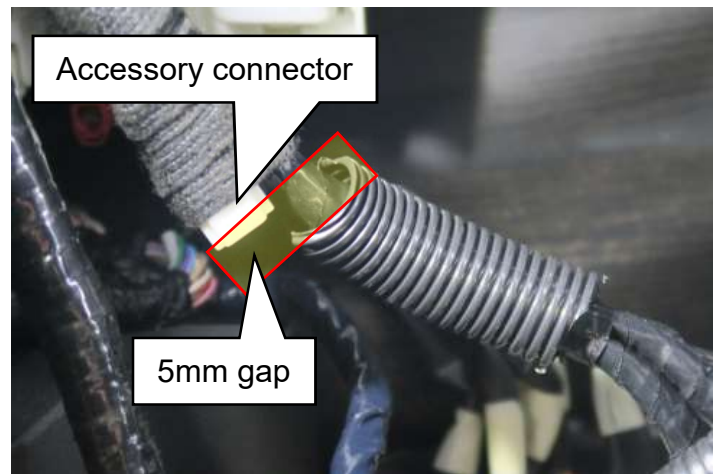

Figure 13
- Position the corrugated tubing about 5mm below the accessory connector as shown in Figure 13